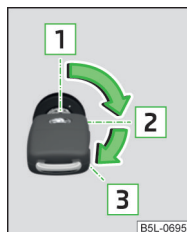

Fig. 89
Positions of the vehicle key in the ignition lock » Fig. 89
- Turn key to position **1** » Fig. 89 on page 76.